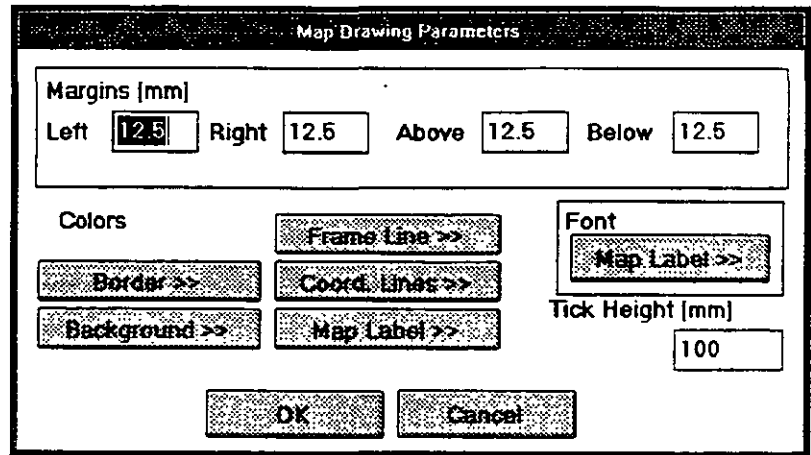
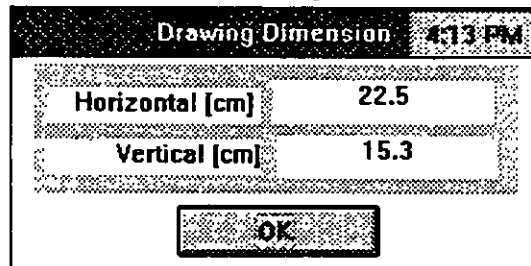

Figure 15-5
Figure 15-9
You will also have a chance to control the map drawing by selecting the **More** button (see Figure 15-3) which will then open another dialogue box as shown in Figure 15-5.
- 15.2.10. Edit Parameters** You may edit the parameters of an existing map. When you select this option, the dialogue box as shown in Figure 15-4 will be displayed. You may modify anything in this box, although normally, you will probably want to change the scale, the tick distance, and one or more map drawing parameters. Remember the **More** option (button) opens another dialogue box in which you control drawing parameters, Figure 15-5. The normal procedure in editing map parameters would be to select the scale and then check the dimension (size) of the map by selecting the option **Dimension** from the same menu. The display may look as shown in Figure 15-9. If not satisfied,
15.2.13. Dimension As mentioned earlier in paragraph 15.2.10., you will use this option frequently to check the size of the drawing. The numbers, which are in centimeters by default, as shown in Figure 15-9, include drawing margins. The following is important to keep in mind. Maps are printed using either a default reporting form or one which you created. When you create a reporting form, you assign the dimension and position of the drawing field. The dimensions assigned using the **Tools** option on the main menu and **Report Form Editor** should match the dimensions of your current map in order to print its whole content.